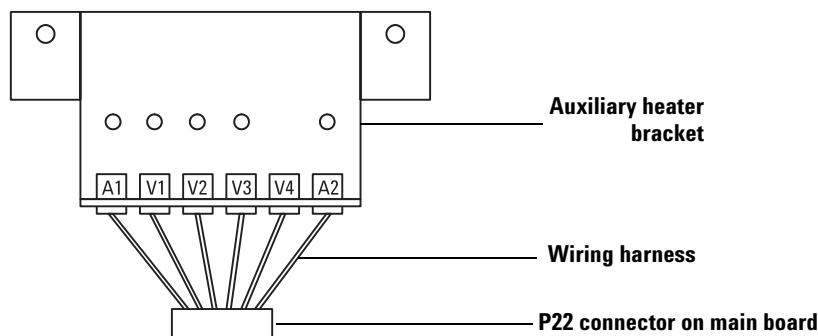

Figure 10 Wiring harness and bracket
- 2 If this connector has a wiring harness and bracket attached to it (see Figure 10), skip to step 7. If nothing is attached to the connector, continue with step 3.
- 7 Pass the long heater/sensor cable under the board and plug it into a connector (see Figure 10) on the bracket as listed in Table 3.